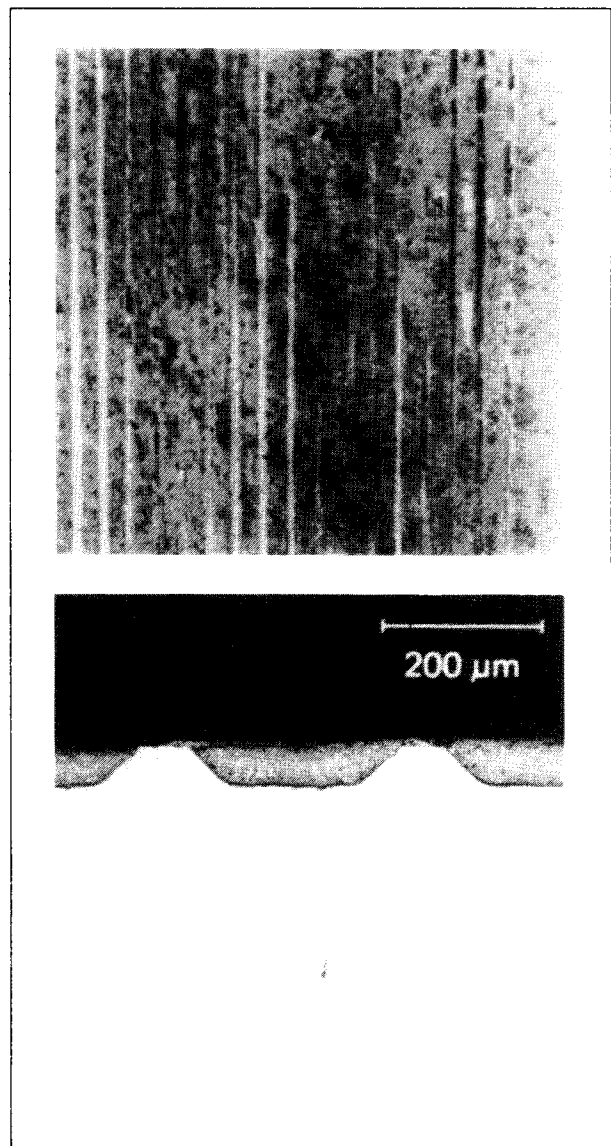

Fig. 5.
**Condition:** The overlay has been dragged and smudged over the light-alloy metal. These are only partly visible, see fig. 5.